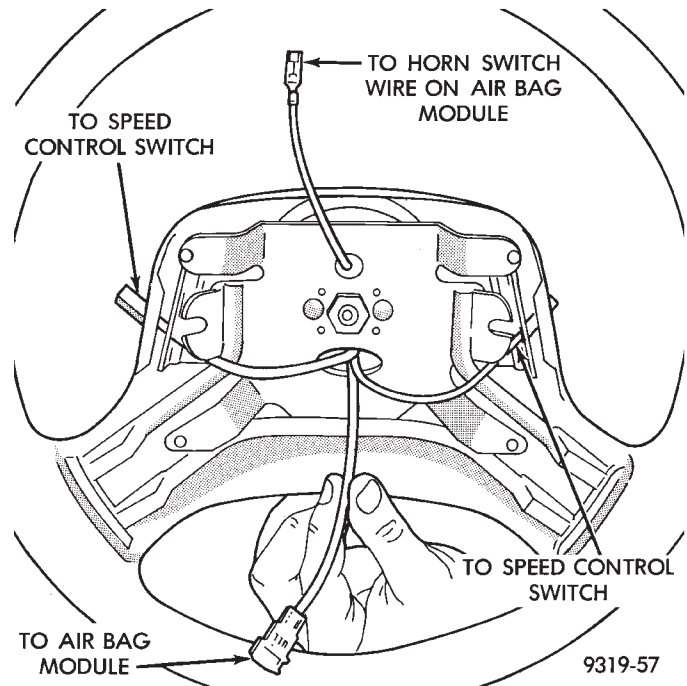

Fig. 19 Wire Routing Through Steering Wheel
(19) Align master splines on steering wheel and steering column shaft. Then install steering wheel on steering column shaft routing wiring through steering wheel as shown in (Fig. 19). Install steering wheel to steering column retaining nut, tighten nut to draw steering wheel onto steering column shaft. Torque steering wheel to steering column retaining nut to 61 N•m (45 ft. lbs).